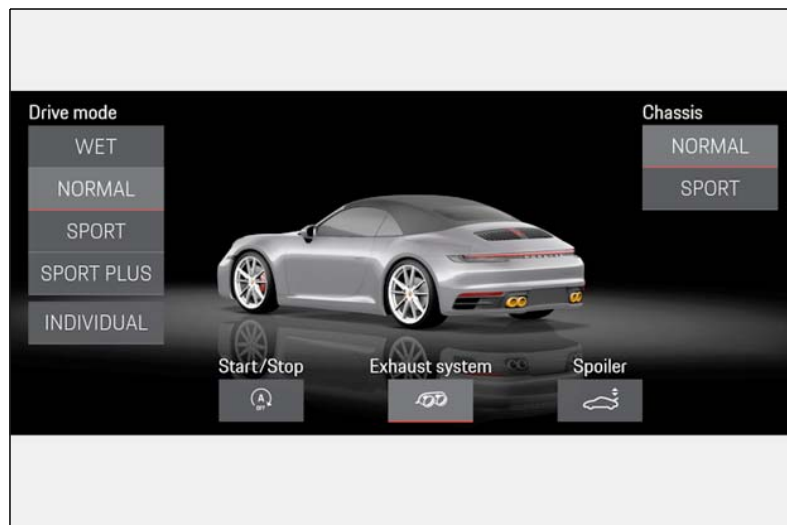

Figure 1
- Porsche Communication Management (⇒ Figure 1): Select the menu "Car" → "Drive" → "Exhaust system"
- Porsche Communication Management (⇒ *Figure 1*): Select "SPORT" or "SPORT PLUS"